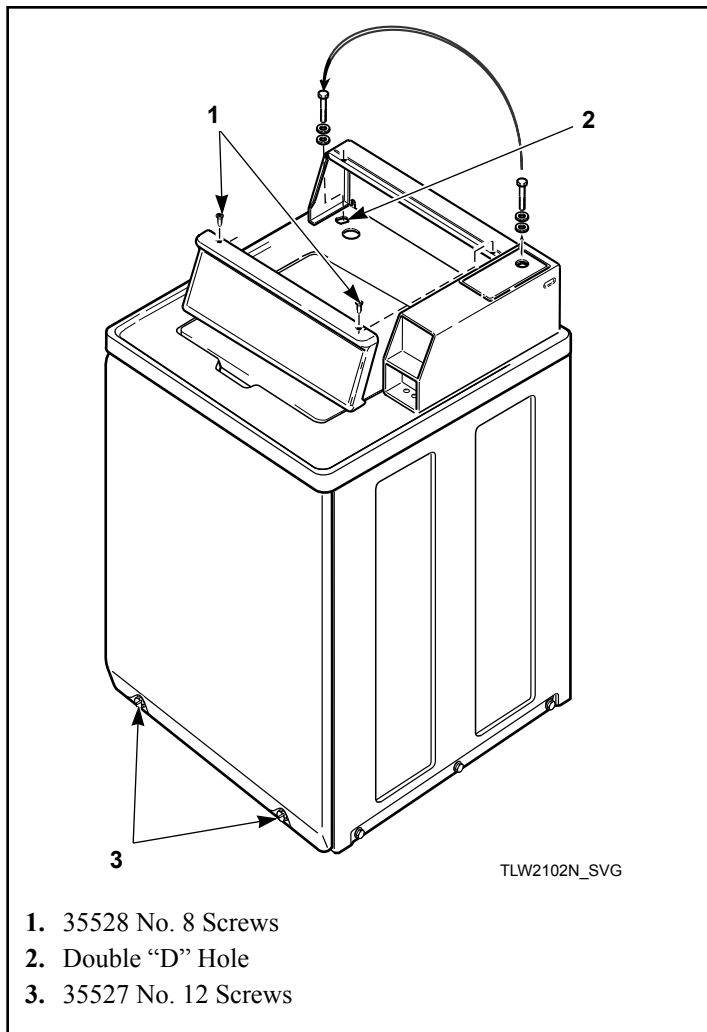

Figure 23
1. Remove the Phillips head screw from service door (refer to *Figure 23*).